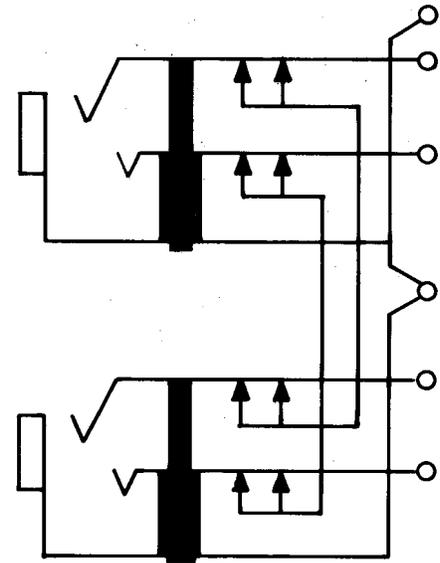

Fig. 12—613AM Jack
2.12 613AM: This single-mounted twin jack (Fig. 12) has a single frame with two sleeves and is designed to mate with the 425 or similar-type plug. The terminal ends are designed for mechanically wrapped connections and the contact springs are equipped with No. 2 metal contacts. The 613AM jack is used in the A6 Channel Bank.